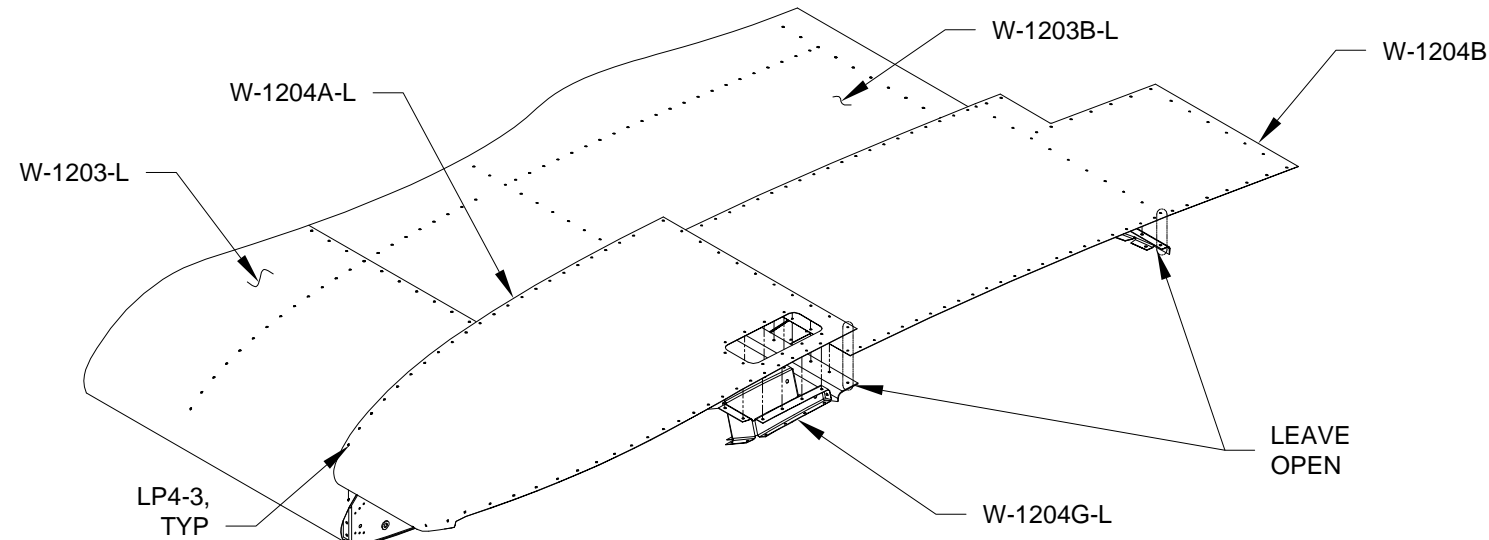

FIGURE 3: ATTACHING THE FWD WING TIP RIB
Step 3: Rivet the W-1204B Wing Tip Aft Skin and the W-1204A-L Wing Tip Fwd Skin to the wing as shown in Figure 3.